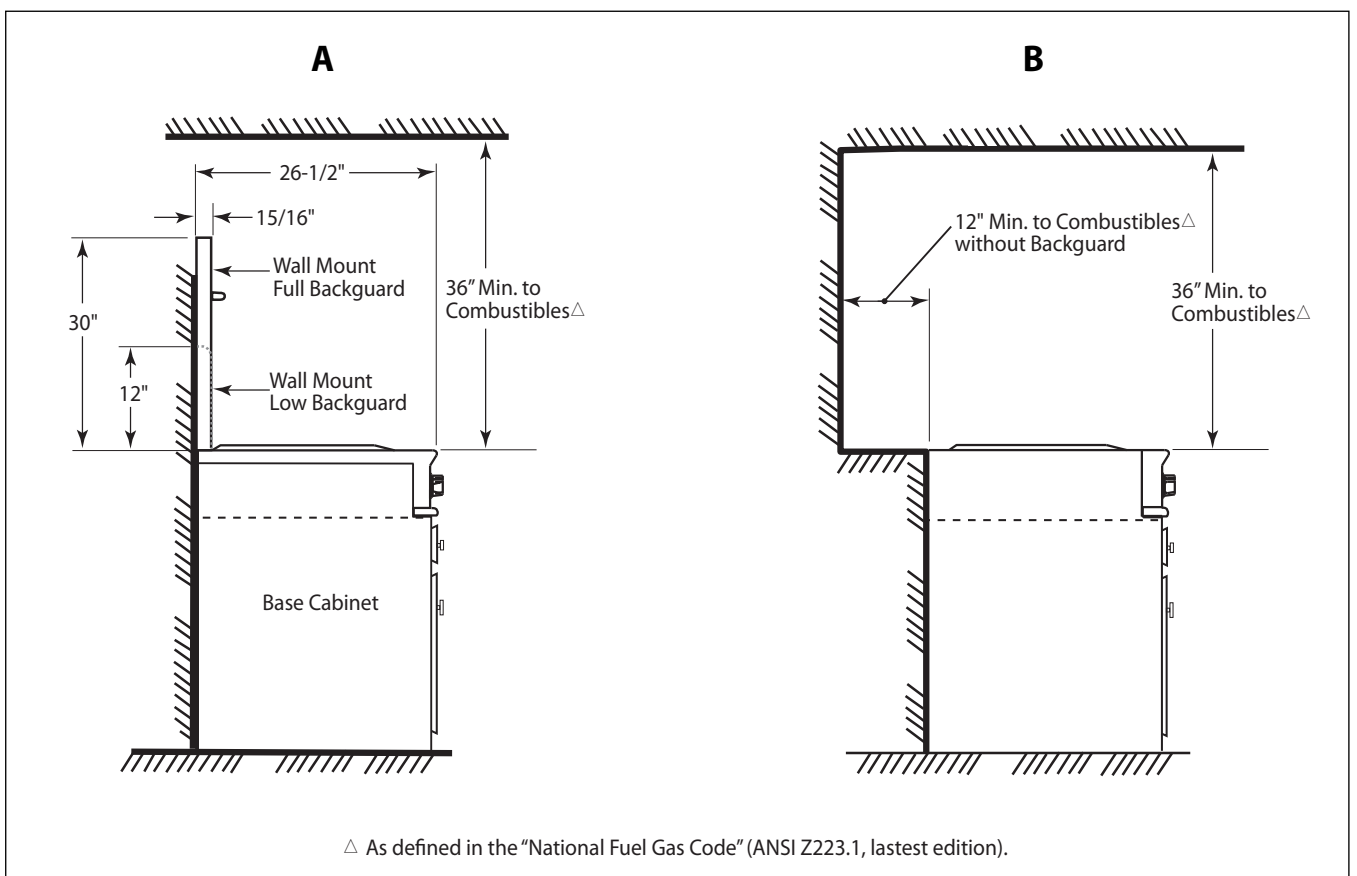
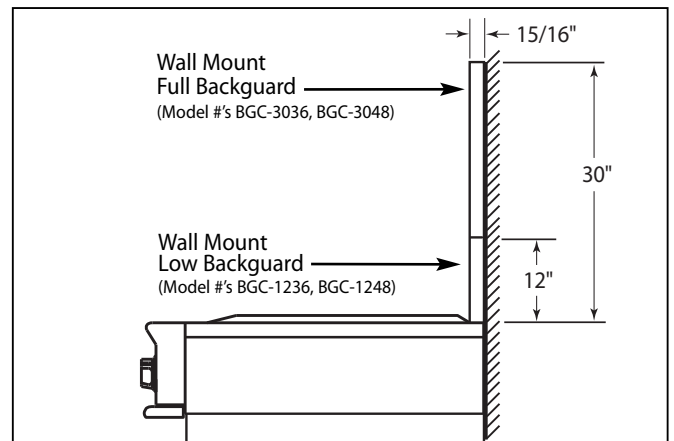

Fig. 8
Fig. 9
2. The clearances shown in Fig. 8 pg. 14 are required for all types of backguard installations.
The backguard is located as shown in Fig. 9. Secure the backguard to the wall behind the range. Specific instructions for installation of the full backguard or low backguard can be found packaged with the backguard. See also page 8, "Planning The Installation" section. A backguard must be installed when there is less than a 12" clearance between combustibles and the back of the range (above the cooking surface). See fig. 8.